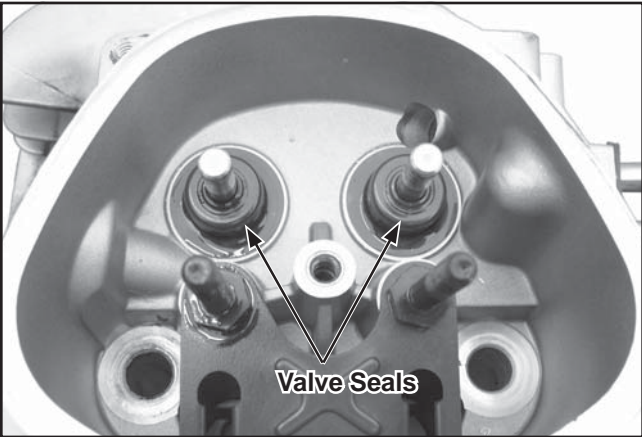

Figure 11-44. Valve Stem Seals.
- 2. Install new valve seals on the stem of the valves. See Figure 11-44.